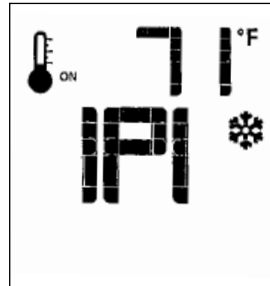
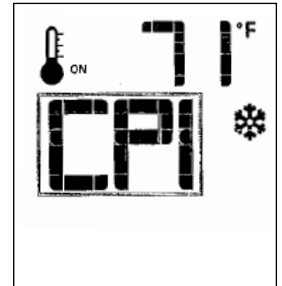

Figure 56. IPI is the default position.
Figure 57. CPI ON.
- With the transmitter in the OFF position, press the transmitter Mode key - IPI is the default mode. Fig. 56. Press the Up arrow to index to the CPI icon and activate the Continuous Pilot Ignition mode. Fig. 57. Pressing the Down Arrow Key will return to Intermittent Pilot Ignition. A single “beep” will confirm reception of the command.